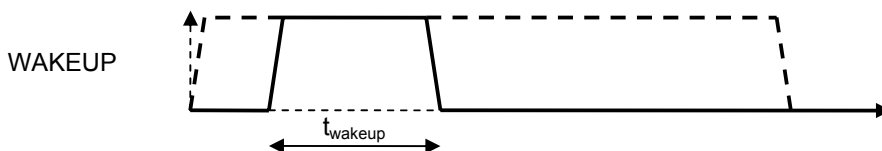

Figure 5 - WAKEUP timing diagram
- **ON mode:** all blocks except the CODEC are powered. The application is running and a Bluetooth connection may be active. The chip enters this state when the WAKEUP input is set high (see Figure 5), and leaves this mode under software control, when requested by the application. In the ON mode, the pin VREGD outputs 1.8V and the pin VREGA is floating.